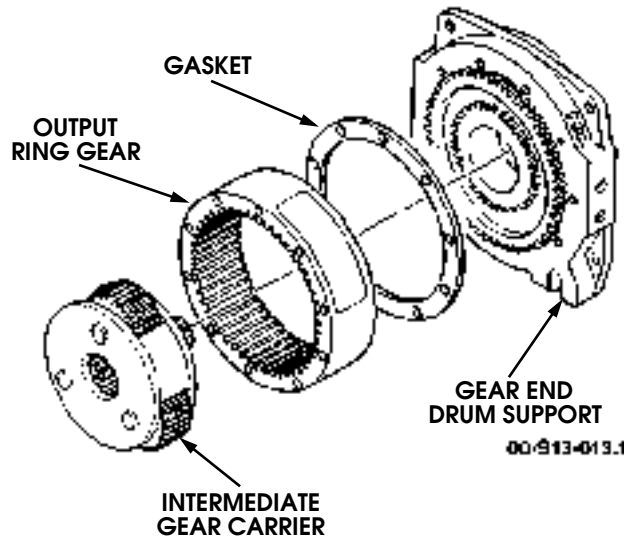

Figure 9-194: Gear Carriers
21. Remove and output gear carrier from output ring gear and gear end drum support (Figure 9-194)